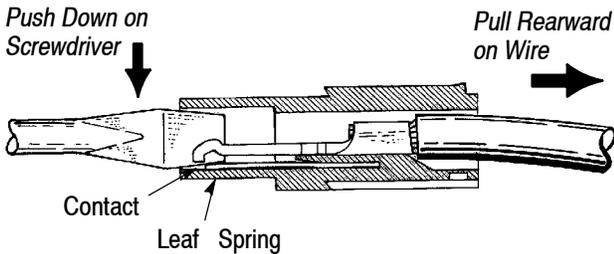

Figure 3
2. Insert contact until it bottoms in housing (stabilizing legs bottom inside housing). *Leaf spring must latch under tip of contact as shown in Figure 3, Detail A.* Be sure contact is in straight alignment with circuit cavity.